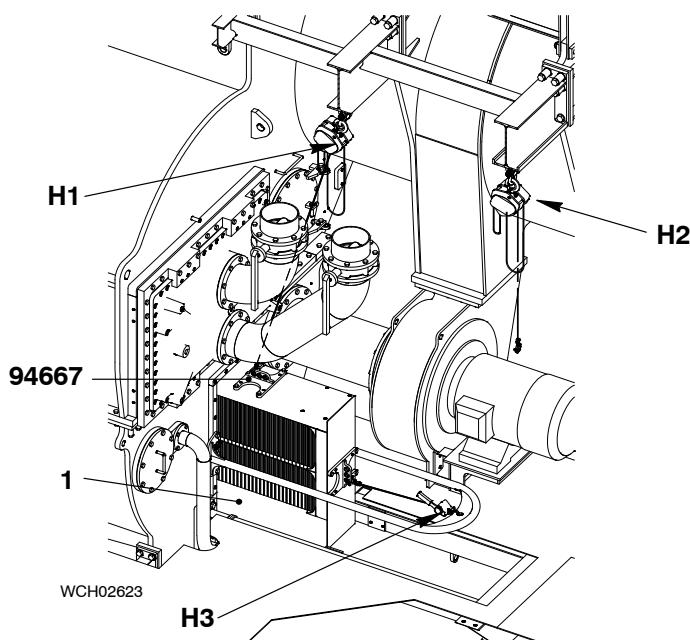
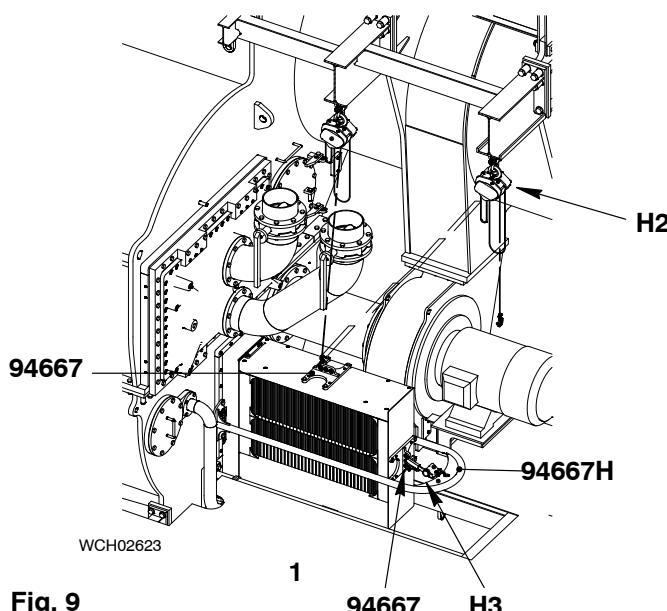

Fig. 8
Fig. 9
- 4) Operate the manual ratchet to pull the water separator (1, Fig 8) sufficiently so that you can attach the tool (94667).
- 5) Attach the tool (94667) to top of the water separator (1).
- 8) Operate the manual ratchet (H3, Fig. 9) to pull the water separator (1) from the receiver. At the same time, operate the spur-gear chain block (H1) to hold the mass of the water separator.